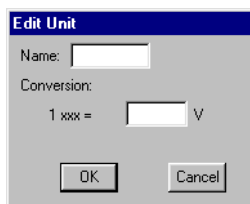

Figure 4-11 Edit Unit Dialog Box
4. If necessary, modify the list of available units for calibration using **Add Unit**, **Del Unit**, or **Edit Unit**, then give a conversion factor for volts to the desired units (Figure 4-11).